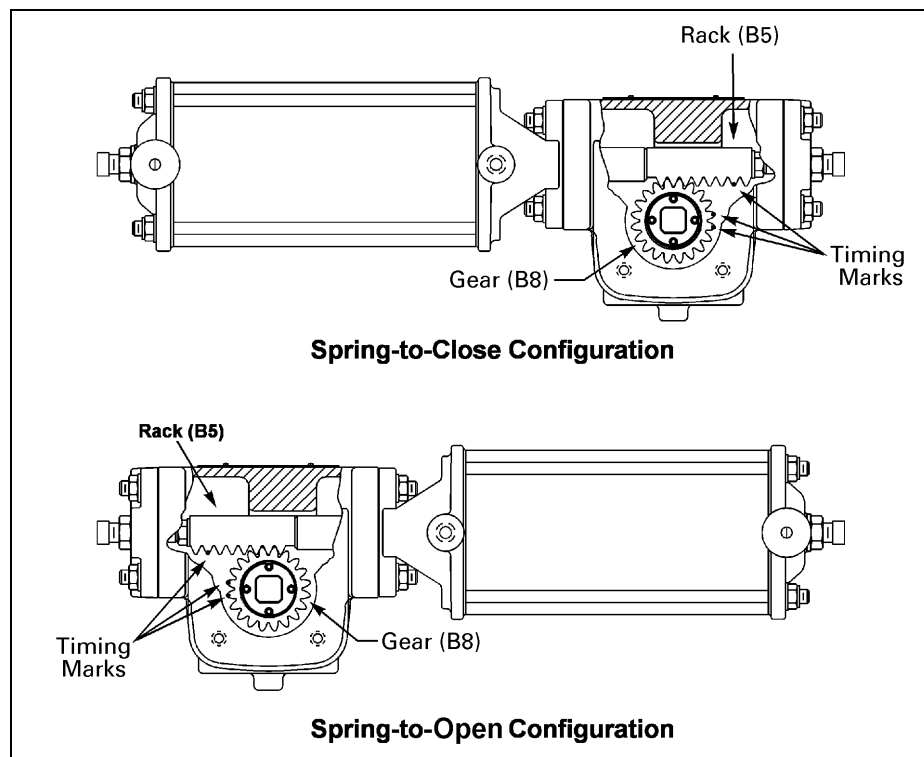

Figure 7—Gear Alignment
- With the four tapped holes facing down, place the gear (B8) into the housing bearing (B2), and engage the gear teeth with the rack (B5) teeth so that the marked tooth on the rack and the two marked teeth on the gear are positioned as shown in Figure 7: